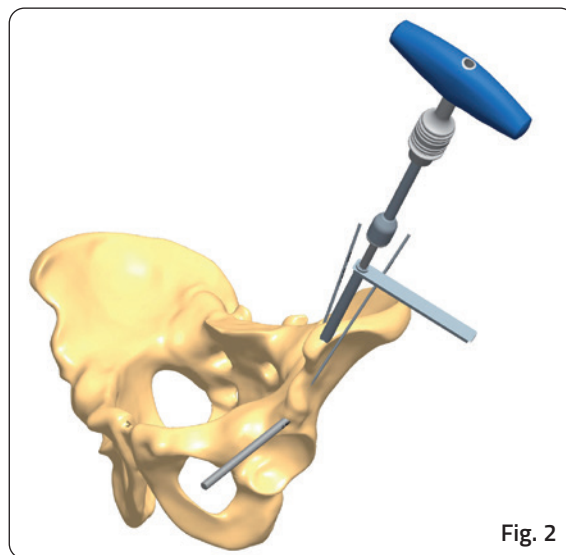

Fig. 2
2. Insert two Kirschner Wires to establish the orientation of the hemipelvis: one from the iliac crest along the inner table of the ilium and one along the outer table (**Fig. 2**). Insert a self-drilling screw, gently tap it through the cortex and screw it home with the T-wrench, without forcing the screw in any direction. The depth of insertion is 40-50mm (almost the entire thread length). In young patients (16 years and under), use a 3.2mm drill bit and drill guide to penetrate the hard cortex to a depth of 1cm. Screws in the iliac crest should be inserted in a region from 2cm to 7cm posterior to the anterior superior iliac spine. These screws should be directed towards the acetabulum and should follow the route between the outer and inner table of the ilium.